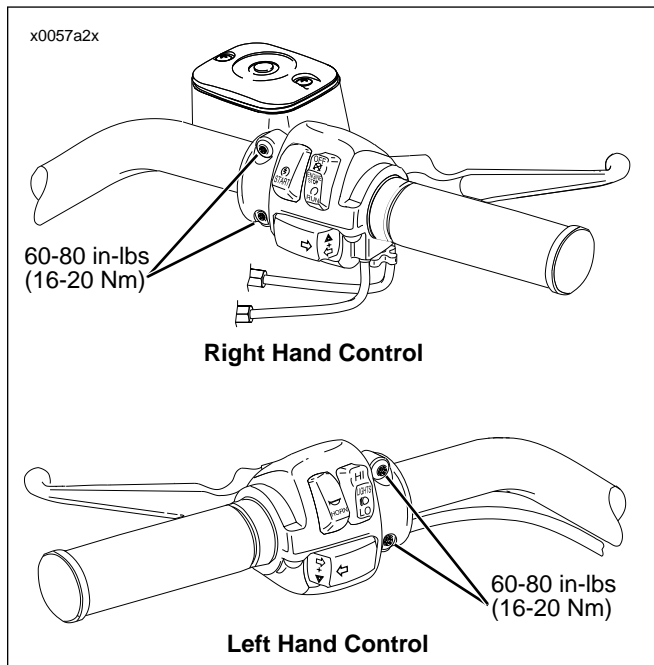

Figure 2.
3. See Figure 2. Using a T27 TORX drive head, remove the two screws with flat washers securing the handlebar clamp to the master cylinder housing. Remove the brake lever/master cylinder assembly and clamp from the handlebar.
1. See Figure 2. Using a T27 TORX drive head, remove the two screws with flat washers securing the handlebar clamp to the clutch lever bracket.